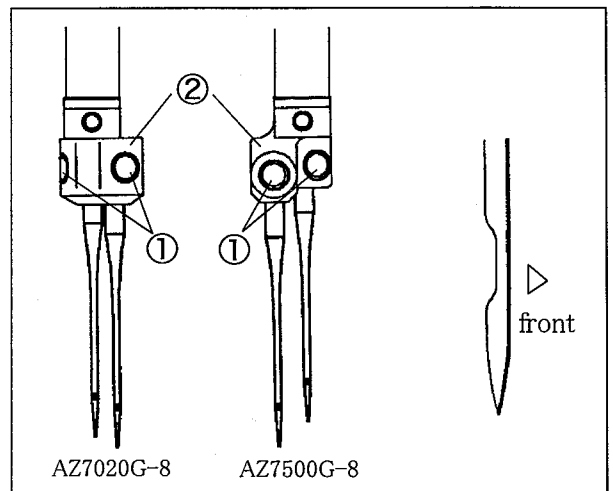
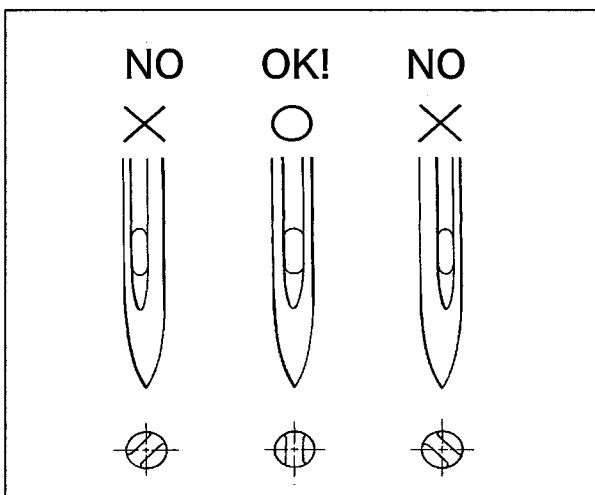

Fig. 22
Fig. 23
- (1) Loosen the screw ① with a screw driver. (Fig. 22)
- (2) Remove the old needle with a pair of tweezers.
- (3) Insert a new needle into the needle clamp ② as far as it will go with facing its scarf to the right back. (Fig. 23 and 24)
- (4) Tighten the screw ① with the screw driver.